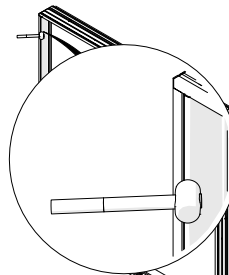

Figure 21
20. Reinstall the frame cover. Important: The cover must be placed in the innermost groove before installation and tapped into place at the outer corner (figure 21).